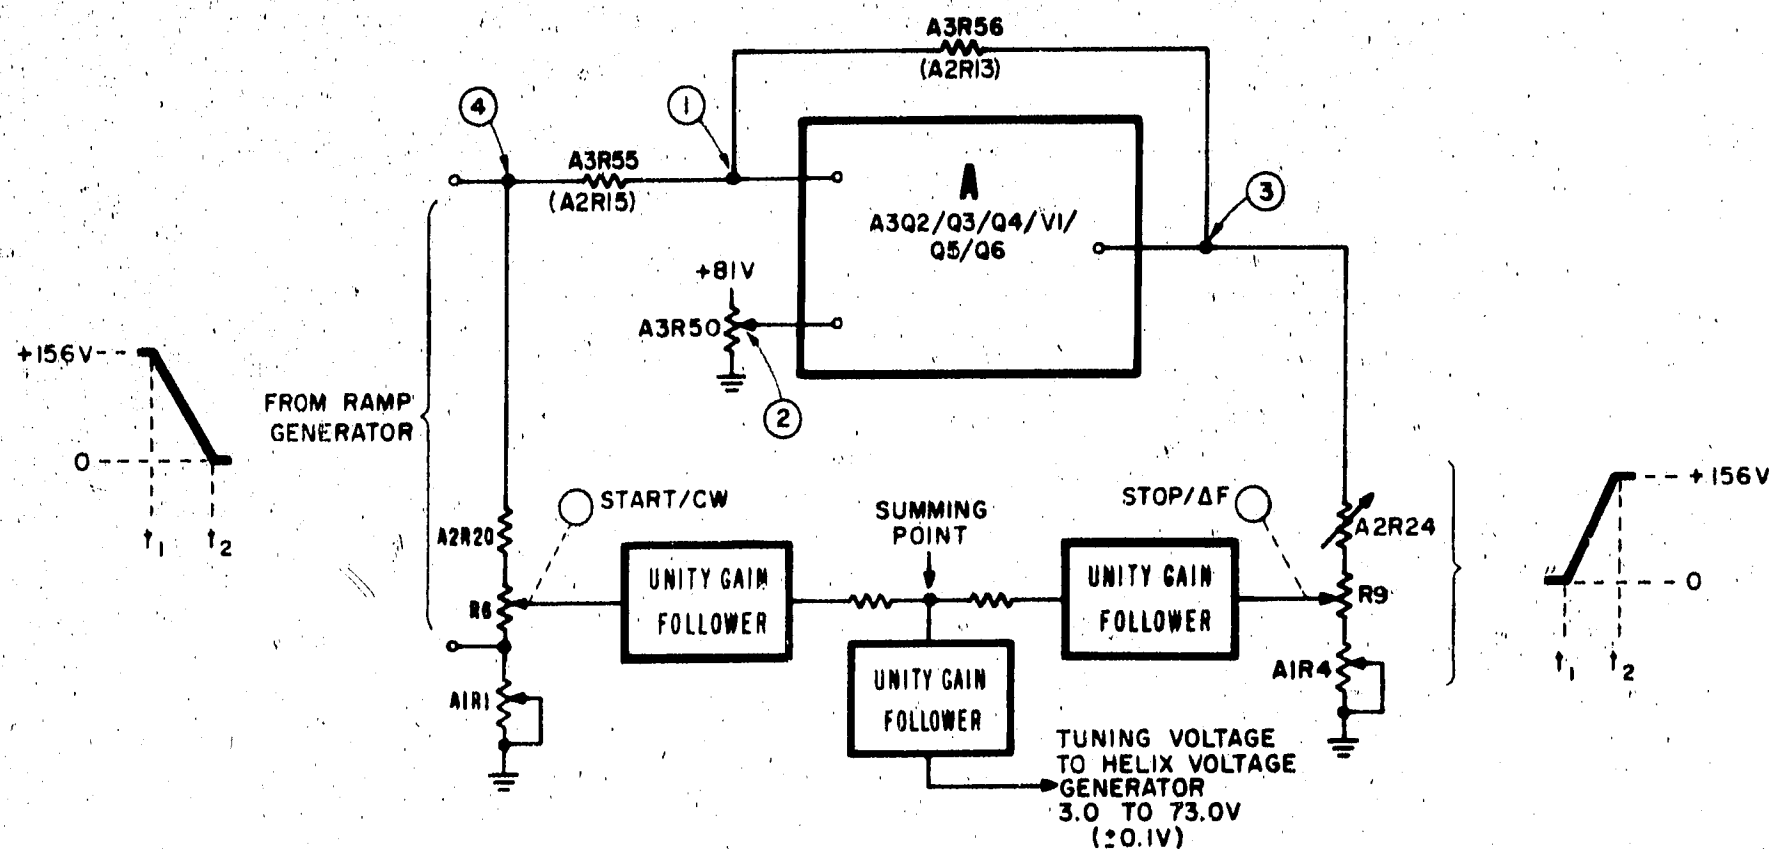

Figure 4-8. Reciprocal Amplifier Functional Schematic Diagram
4-36. The Reciprocal Amplifier consists of differential amplifier Q2/Q3/Q4, inverter amplifier V1, and emitter follower Q6 on etched circuit board A3. Unity gain is achieved by a degenerative feedback circuit around the entire amplifier as shown in Figure 4-8. The gain of A3V1 is 70 to 75 db, but the net gain of the circuit is equal to the ratio of feedback resistor A3R56 to input (series) resistor A3R55. For swept and single frequency output, equal resistors give unity gain. For external frequency modulation, unequal resistors A2R13 and A2R15 are substituted to obtain amplification.
4-37. The voltage at (2), Figure 4-8, is preset to +78V, half the amplitude of the linear ramp from the Ramp Generator. When operating as a unity gain inverter, the circuit acts to maintain the voltage at (1) equal to the voltage at (2). To achieve this, the circuit produces a positive-going ramp at (3). The instantaneous ramp voltages at (3) and (4) are averaged by resistors A3R55 and A3R56 to produce about +78V at (1). The negative- and positive-going ramps supplied to the Ramp Combining Circuit must have exactly the same dc voltage limits. To obtain this equality, the dc voltage limits of the positive ramp from the Reciprocal Amplifier are adjustable. A3R50 sets the low voltage limit, and A3R75 sets the high voltage limit.